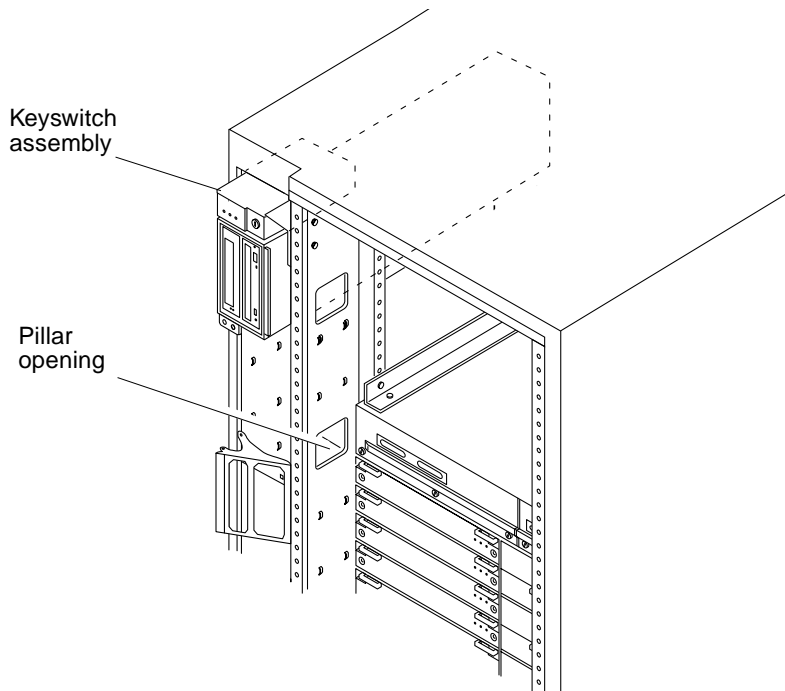

FIGURE E-19 Pillar Opening for Cable Routing
2. Route the new keyswitch cable included in the upgrade kit through the opening in the cabinet pillar below the SCSI tray (FIGURE E-19). Do not connect the cable to the keyswitch at this time.